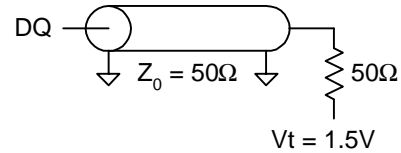

Fig. 1 OUTPUT LOAD EQUIVALENT
Output load	See Figures 1
- Test conditions as specified with the output loading as shown in Fig. 1 unless otherwise noted.
15. Capacitance derating applies to capacitance different from the load capacitance shown in Fig. 1.